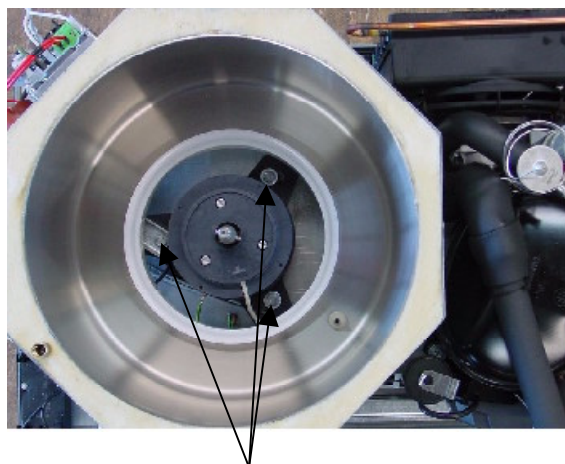

figure 26
- Remove motor fixing screws 1-3 (figure 26).